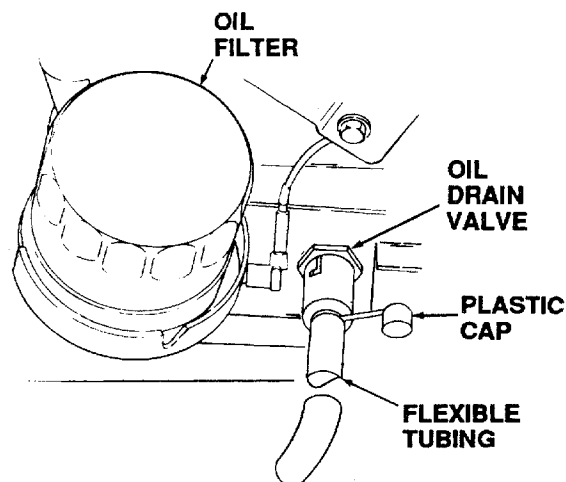

Figure 20
The oil filter is located behind the left side panel and is mounted on the engine (See Figure 20).
3. Unseat the plastic dust cap from the engine oil drain valve. To prevent loss of the cap, do not remove the cap's retaining ring from the drain valve (Refer to Figure 20). Remove the dipstick.